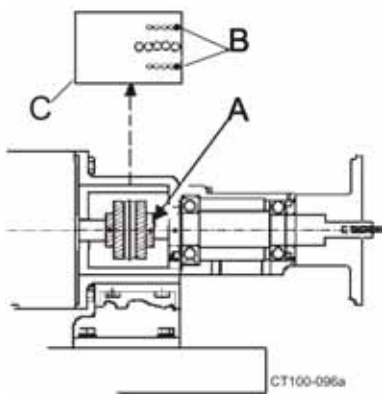

Figure 49 - Removing Coupling Covers
7. Remove the coupling cover cap screws. (Figure 49, item B).
8. Loosen the set screws on the pump coupling. (Figure 49, item A).